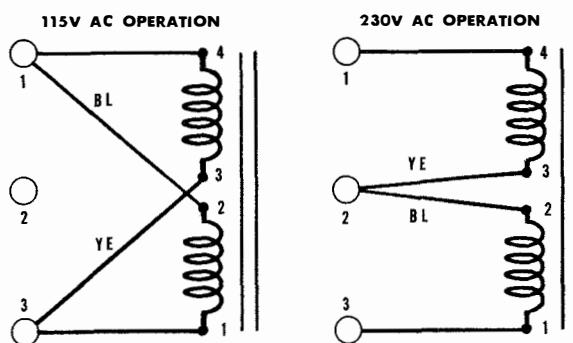

Figure 3-2 Power Supply PP-765/U Input Terminal Connection for 230 or 115 Volt Operation.
c. For 115 volt input, Terminal No. 3 of the transformer is connected to Terminal No. 3 of the terminal block and Terminal No. 2 of the transformer is connected to Terminal No. 1 of the Terminal Block. (See figure 3-2)
a. First determine from known authority or by test which of the two specified power sources is available. Then on terminal block of Power Supply make the correct hook-up as described below: (See figure 3-2)
(1) For 230 volt operation place yellow and black leads on Terminal No. 2 on the Terminal Block E-101.
(2) For 115 volt operation place yellow lead on Terminal No. 3, and place black lead on Terminal No. 1 on Terminal Block E-101.